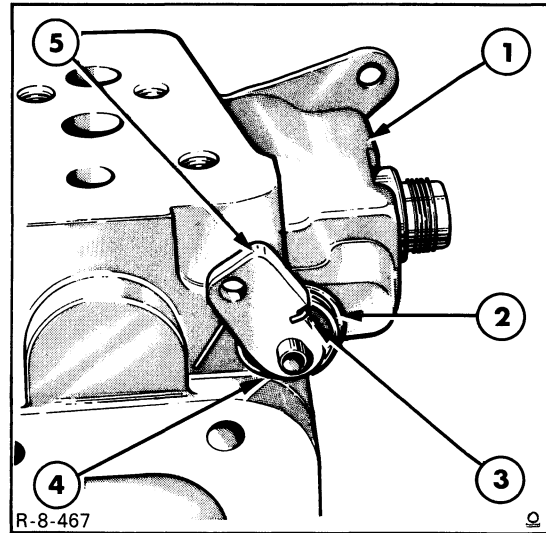

Figure 21
7. Place the variable restrictor override spring and arm over the end of the valve spool and secure with the roll pin as shown in Figure 21. Ensure the spring has approximately one turn of wind-up tension.